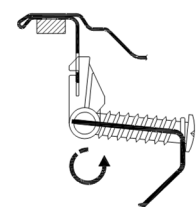

Fig 3
10. Unscrew the fixing clip screws fully then rotate the hook section of the fixing clips away from the sink edge (fig. 3), this will clear the clips of the cut out when fitting the sink.